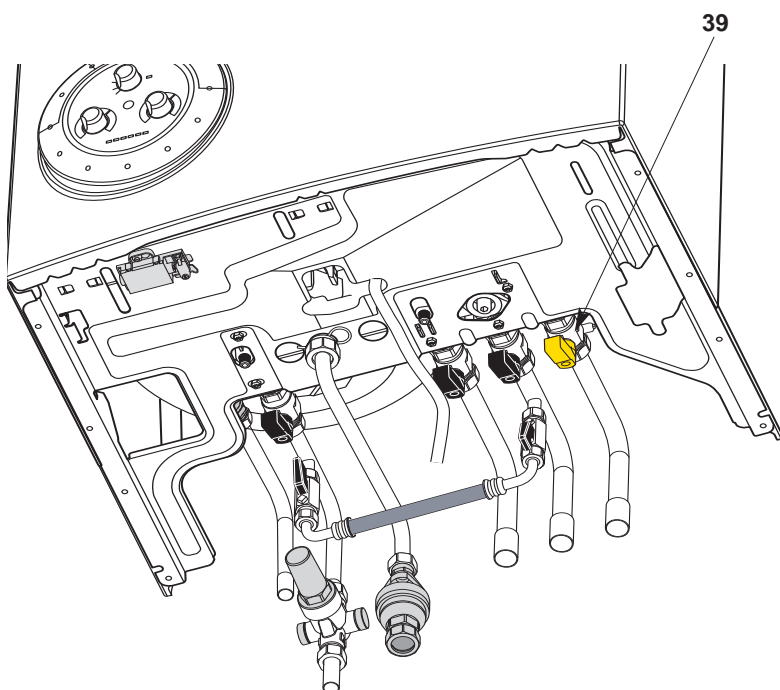

Fig. 3.3
2. Check that the gas service tap **39** (Fig. 3.3) is opened (Figs. 3.1 and 3.2) and that the mains power is on, the green indicator **29** will light.